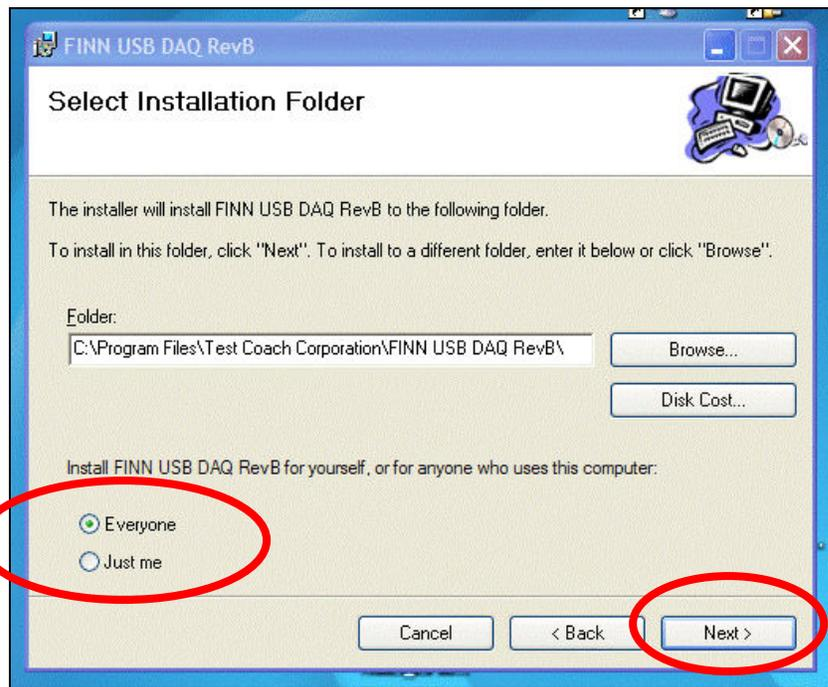

Figure 2
- The following screen will appear (Figure 2).
- Select "**Everyone**" (Figure 2).
- Click on "**Next**" (Figure 2).